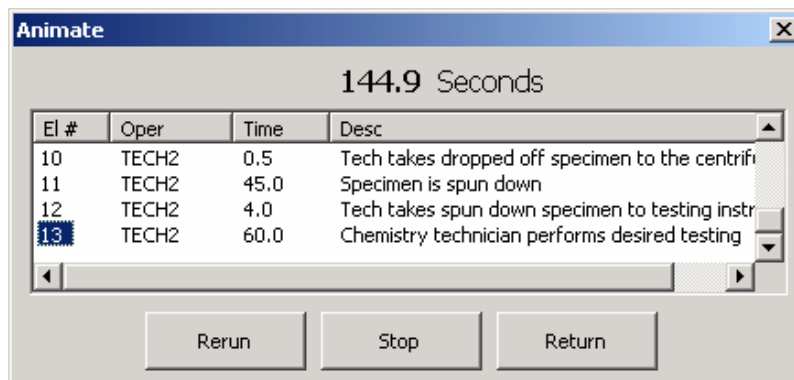

Figure 11
STEP 13: Still in the *Operators* tab, select the Block Name of “PP_PERSON” in the pull-down box. Next, select the *Animate* tab to see the animation options. Change the **Motion Delay** to 0.2. Finally select the *Animate* button in the bottom right corner to watch the operators perform the work in 2D. When the animation finishes, you will see a screen with the total animation time displayed. (See Figure 11)